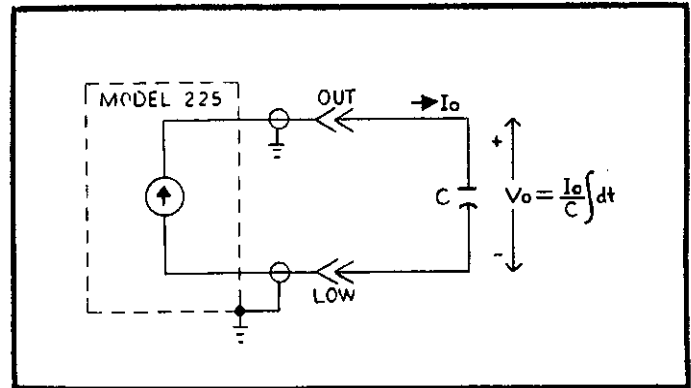

FIGURE 7. Capacitive Load.
2. Capacitive Load. The instrument can also be used to charge a capacitive load as shown in Figure 7. The capacitor will be charged to the compliance voltage set on the front panel.